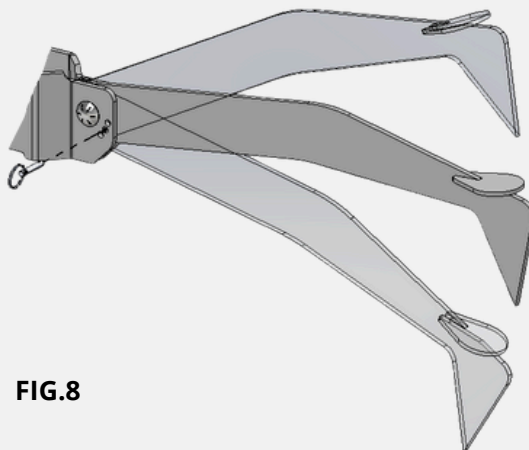

FIG. 8
- Adjust using the Front Leg Quick Pin Adjustment. Before doing this, you should remove the 2x4 holding the target as it is too heavy to adjust with the steel installed. Remove the 1" Quick Pin, adjust the angle, and re-install the Quick Pin. There are 3 locating holes in the front base and 6 holes in the front foot; this gives you adjustment in intervals of 5 degrees each. Use the front foot and the adjustment holes to adjust the stand angle, as shown in FIG. 8